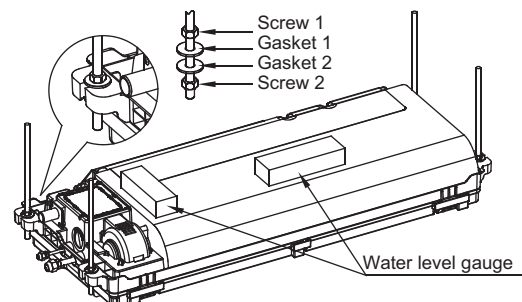

Fig.5-7
- Hoisting the unit on the suspender bolt as the Fig5-7 display, use the level gauge to level-out the length and width directions, and it needs to repeatedly adjust four screw 2 of the suspender during the process. It might occur this situation: under making sure the unit level, the difference of four gasket 2 of the hoisting bolt and the lower surface of the ceiling will be discorded, can not be 70mm. At this time it should make sure the level of the unit body, and move the whole unit up and down, and make the four differences try to be close to 70mm;